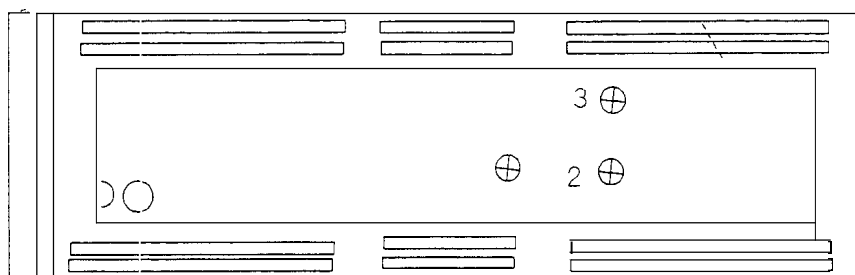
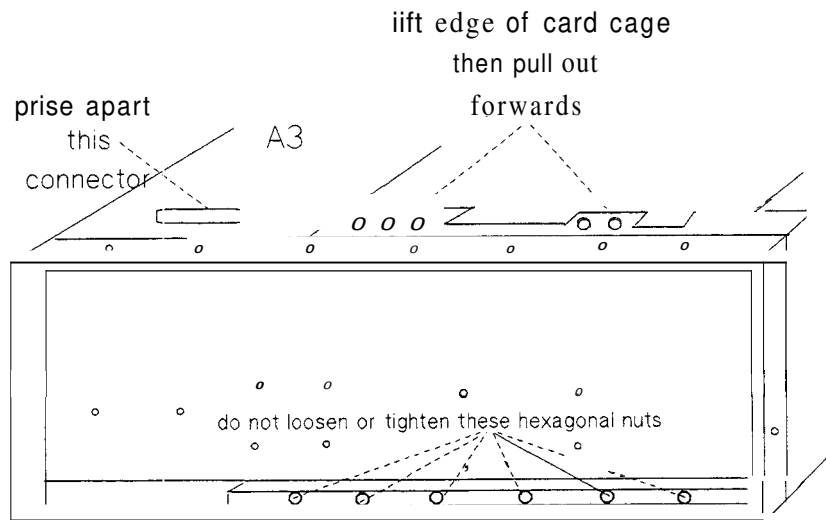

Figure 5-9. Screws securing card cage to right hand chassis wall
Figure 5-10. Remove the card *cage* from the chassis
1. Remove the three screws located in the right side of the chassis. Refer to Figure 5-9
3. Replace the card cage into the chassis. Refer to Figure 5-9 and Figure 5-10.
The hexagonal nuts which secure the threaded SMA studs at the *front* of the card cage DO NOT require loosening or tightening at any time. Refer to Figure 5-10 for the location of these nuts